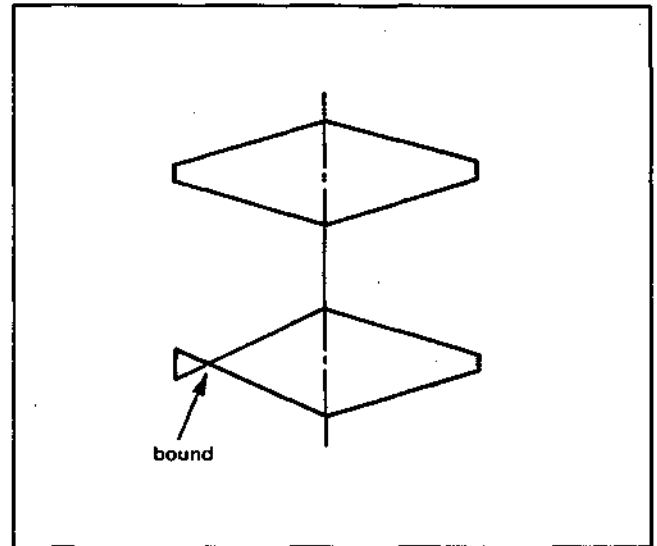

Fig. 4-17 RVS Waveform
11) Put into RVS mode, turn the tracking control knob, and check that there is no bound when the peak of the peak waveform is in the center of the synchroscope. (Fig. 4-17) If there is, readjust starting from 1).